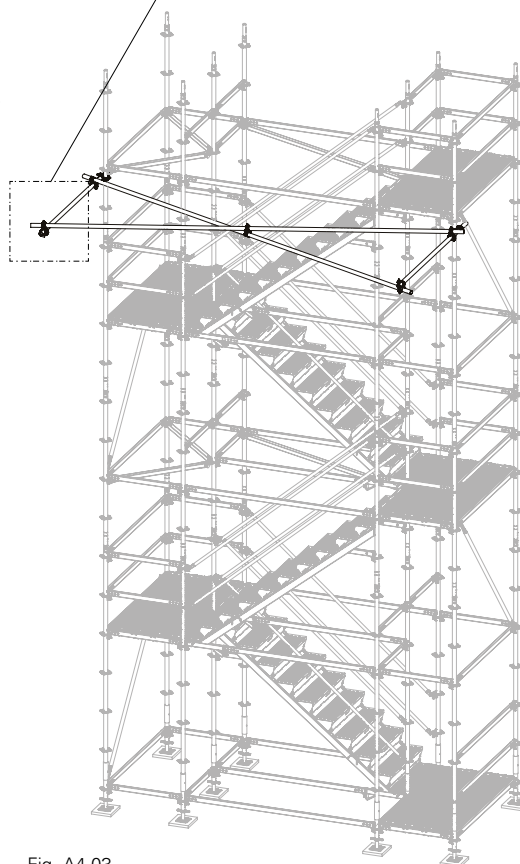

Fig. A4.03
4. At the intersection point of the scaffolding tubes, fit swivel couplings for connecting both scaffolding tubes. (Fig. A4.03 and A4.04)